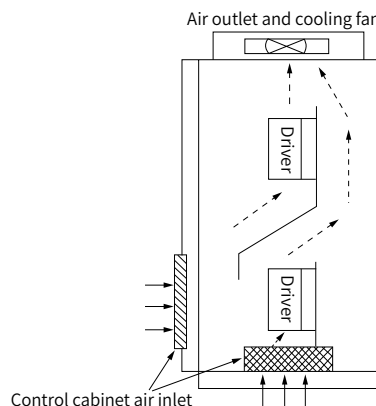

Figure 1-2 Installation of Multiple Controllers
- When installing multiple drivers in the control cabinet, it should be installed side-by-side, with air inlet, outlet and dedicated cooling fan; if installed up and down, baffle plates should be installed between the drivers to ensure good heat dissipation; as shown in Figure 1-2.